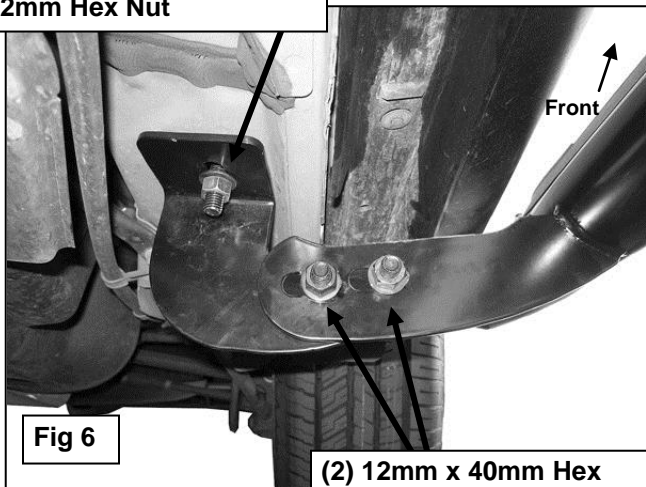

Fig 6
- Partially hang the driver side Rear Mounting Bracket from the previously inserted 12mm Bolt Plate using the included (1) 12mm Flat Washer, (1) 12mm Lock Washer and (1) 12mm Hex Nut, **(Figure 6)**. Do not tighten at this time.